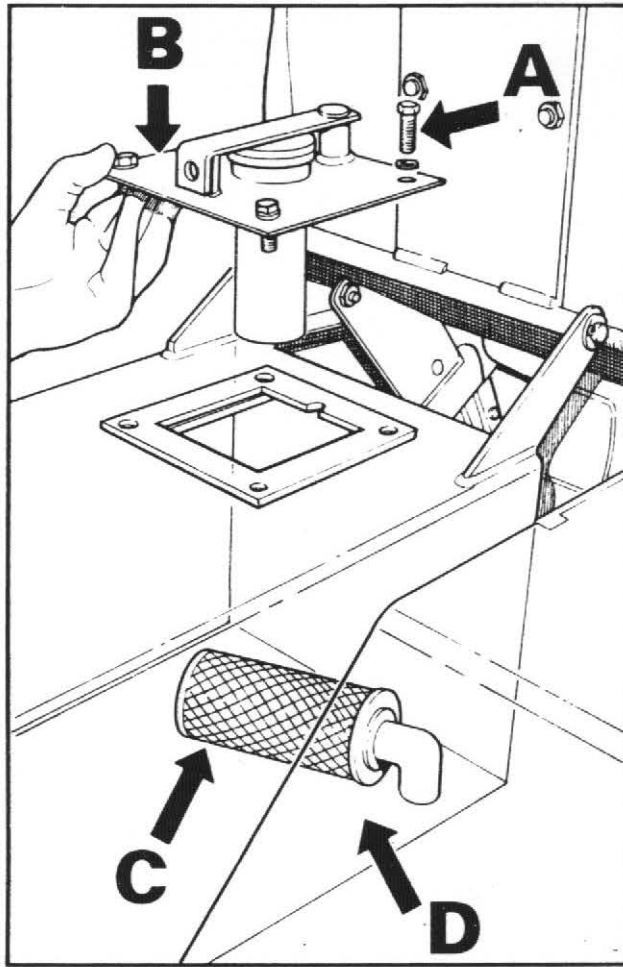
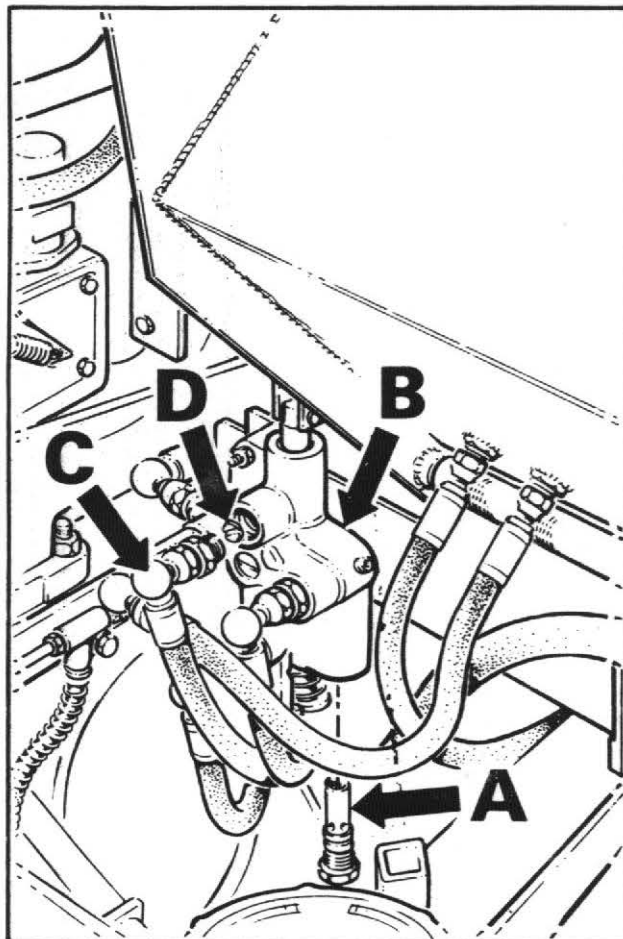

FIG. 7
FIG. 8
2. Check that hydraulic filter is not blocked (See Fig.7).
- a) Remove the four setscrews (A) that secure the filler cap assembly (B) and remove assembly.
- b) Unscrew suction filter (C) from inside tank (D) and wash in white spirit. Dry with moisture-free compressed air.
4. Remove relief valve cartridge (A) (hexagon head) from the bottom of the Control Valve (B) (See Fig.8) and replace with a new one
5. Remove hose adaptor (C) from control valve (See Fig.8), remove hexagonal orifice plate (D) and wash in white spirit. Dry using moisture-free compressed air. DO NOT poke wire etc., into the orifice. Re-fit plate and hose adaptor with slot of orifice plate facing outwards.